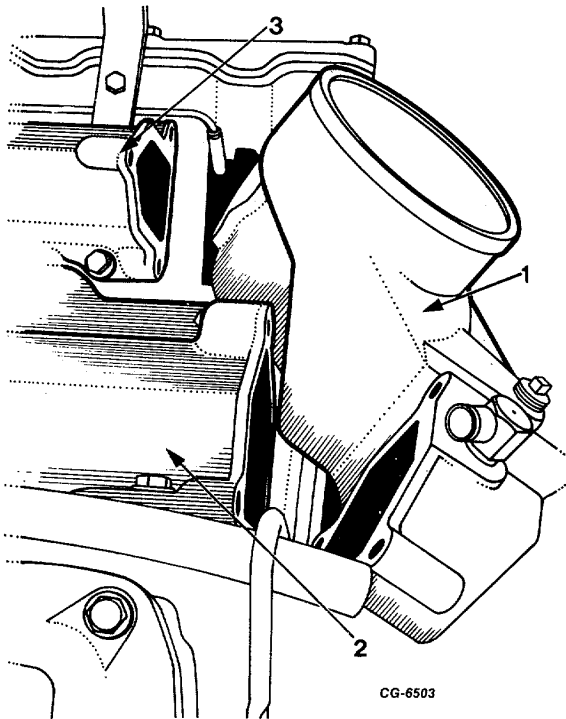

Fig. 38 Removing Intake Manifold Crossover
34. Remove six manifold crossover mounting bolts and remove crossover from intake manifold (Figure 38).